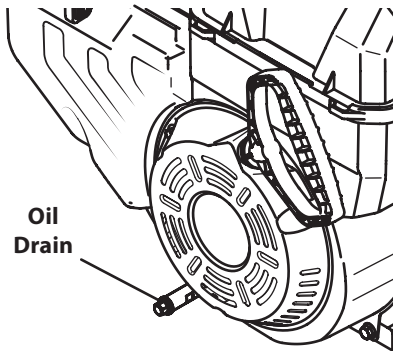

Figure 6-3
6. Remove the Oil drain plug. See "Figure 6-3".
NOTE: Depending on which engine model you have, the oil plug may be positioned differently. These positions include on the front and/or rear side of the block, or as an extended tube. Examples are shown in "Figure 6-3".
12. Fill with the recommended Oil. See "Figure 6-3".